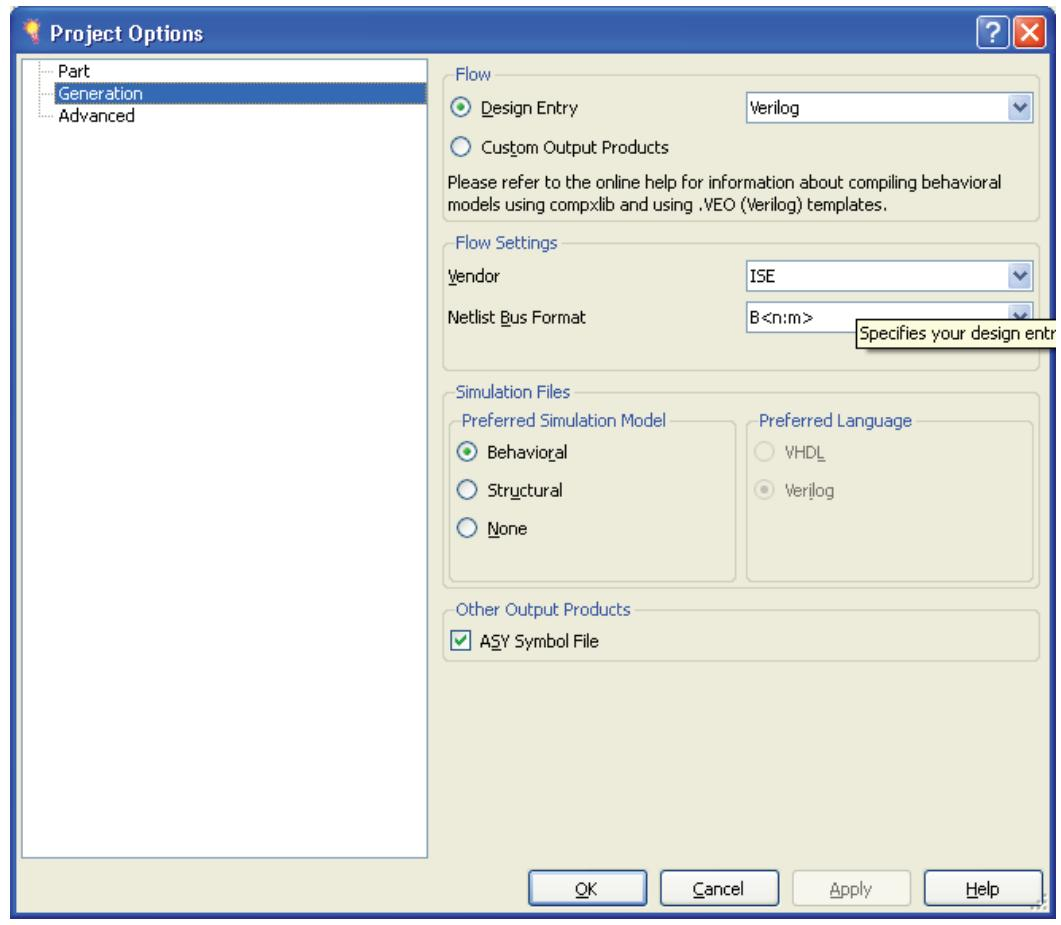

Figure 2-5: CORE Generator Tool Design Flow Setting Page
5. Select **Verilog** as the Design Entry Option and **ISE** for the Vendor Flow Setting. Click **OK** to finish the Project Options setup (Figure 2-5).